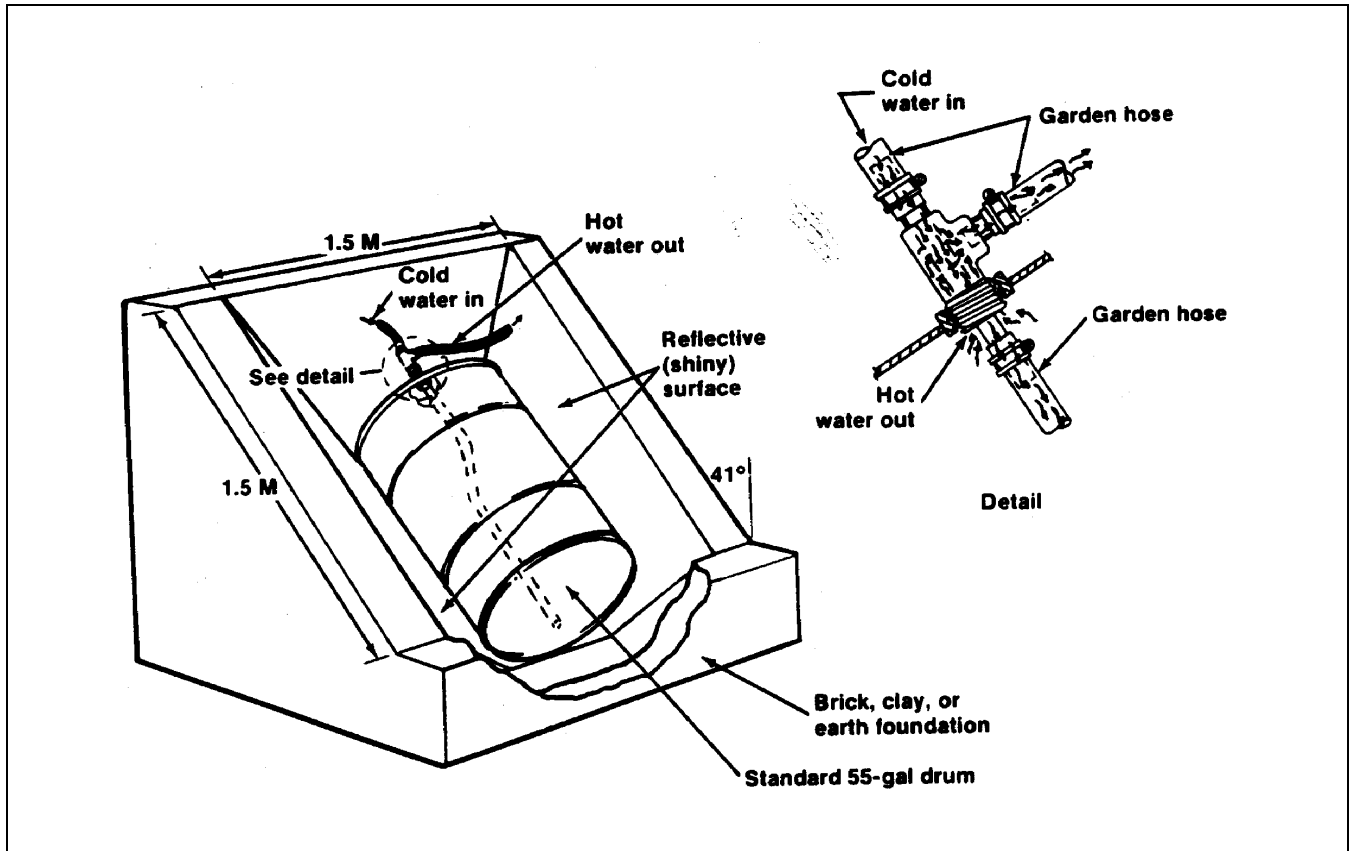

Figure 1. Solar batch heater.
4. Set the third row of blocks on only three walls (west, north and east) to begin the incline of the west and east walls (see Figure 1).
The finished frame's east and west walls will have a 42-45 degree incline from top to bottom (north to south). (See Figure 1.)